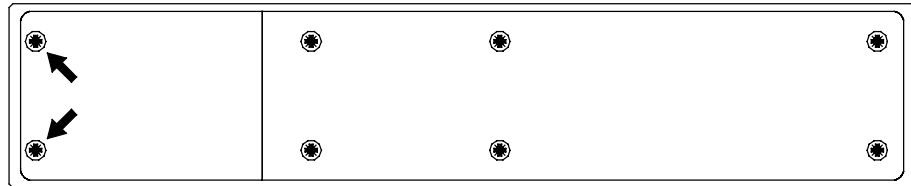

Figure 10 – Removing the Remote Control battery cover
**do this:** Turn the Remote Control unit over and remove the 2 screws shown in **Figure 10** using the 1-point Pozidriv screwdriver supplied. Please do not use a Philips head screwdriver as this will damage the screw heads. Lift off the battery cover.